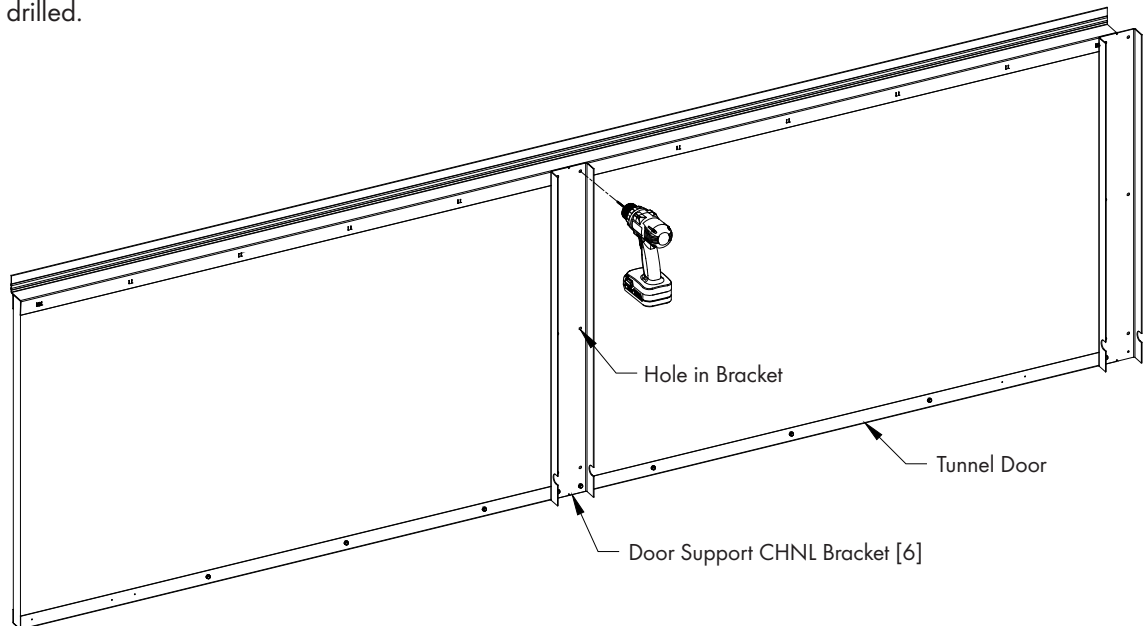

Figure 11
Drill a $\frac{3}{32}$ " hole through the Tunnel Door using the Holes in the Door Support CHNL Bracket [6] as a guide. See Figure 11. The center bracket has (6) holes to be drilled and the right bracket has (3) holes to be drilled.